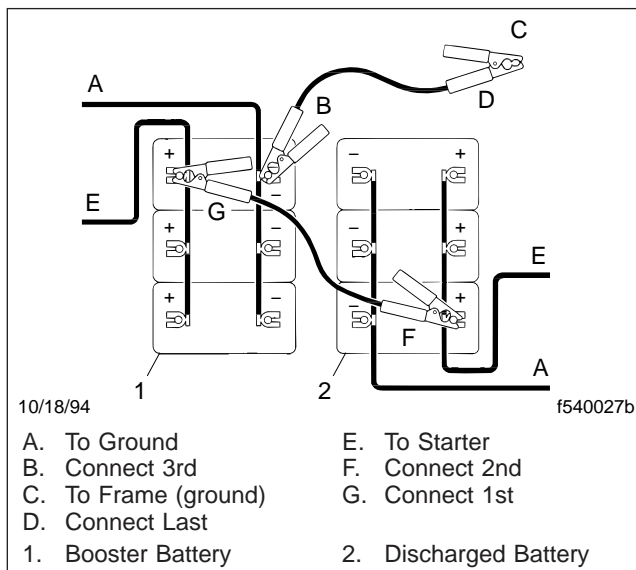

Fig. 13.3, Jumper Connections
2. Connect an end of one jumper cable to the positive terminal of the booster battery (or jump-start post, if equipped), and connect the other end of the cable to the positive terminal of the discharged battery (or jump-start post, if equipped). See Fig. 13.3.